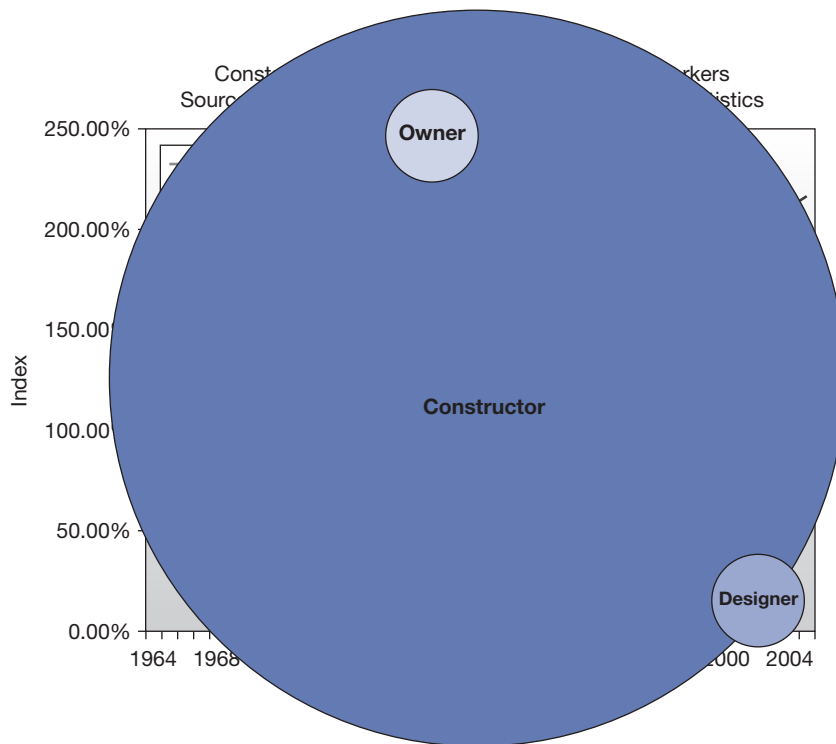

Figure 3.17 Owner/Constructor/Designer Productivity Index. Sam Spata, Architect, AIA, LEED® AP BD+C
**KF:** GSA is a mammoth organization. For any project over \$3 million they have to do a preliminary design, get a cost estimate, and go for individual congressional appropriation. This makes it difficult to get everybody together. They are highly constrained in what we would call process or integrated design. The central office—which originated the BIM program—has very little control over what the regions do. Each region is organized entirely differently. GSA's Charles Matta, FAIA, Director of Federal Buildings and Modernizations, has been focusing on the business challenges. They're looking for ways to do work with fewer people, greater quality, and repeatability. They're looking at automating things. (See Figure 3.17.)